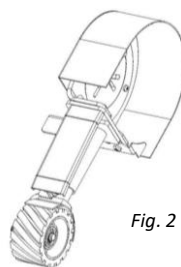

Fig. 2
2. Once completed, it should resemble Fig. 2.